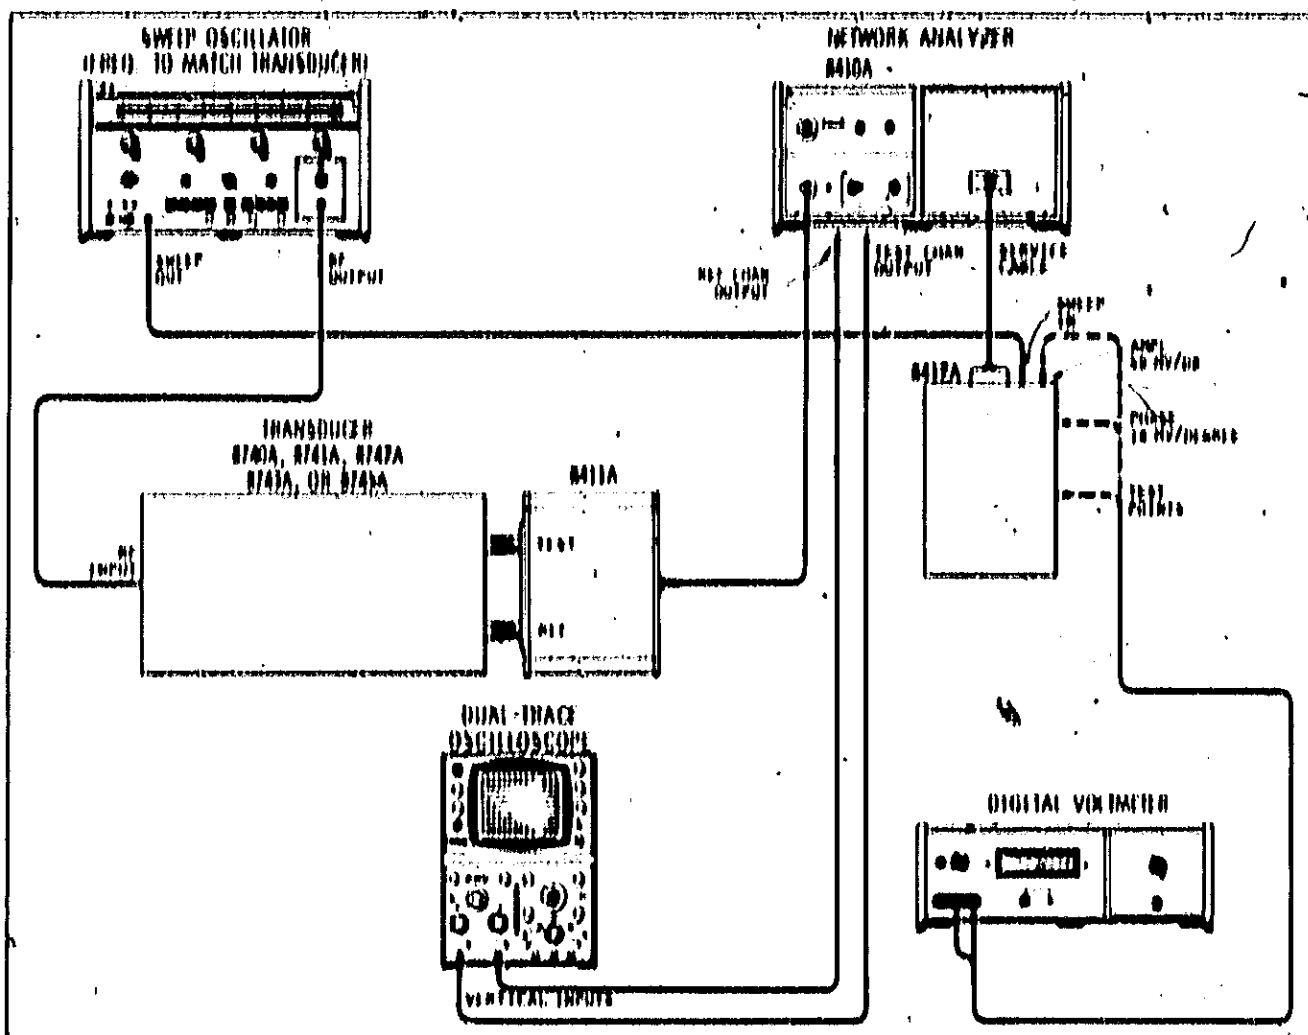

Figure 5-6. Equipment Setup for Alignment Procedures with 0410A Mainframe
1.	<p>INITIAL SETUP</p> <p>DESCRIPTION: Setup and adjust instrument for amplitude and phase trace on CRT.</p> <p>PROCEDURE:</p> <ol style="list-style-type: none"> a. Connect equipment as shown in Figure 5-6. Set sweep oscillator for sweep mode over as narrow a band as possible. Adjust 0410A SWEEP STABILITY control and sweep oscillator RF output for RF CHANNEL LEVEL meter indication in the middle of the OPERATE range.